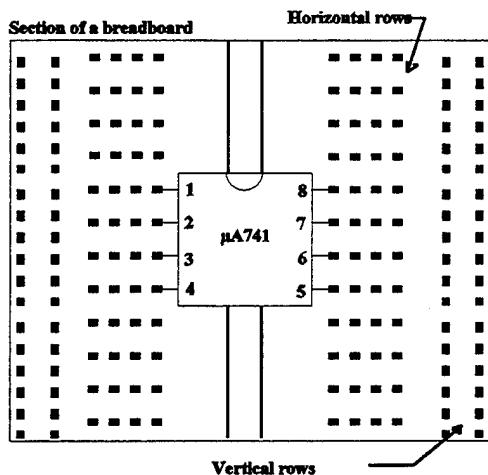
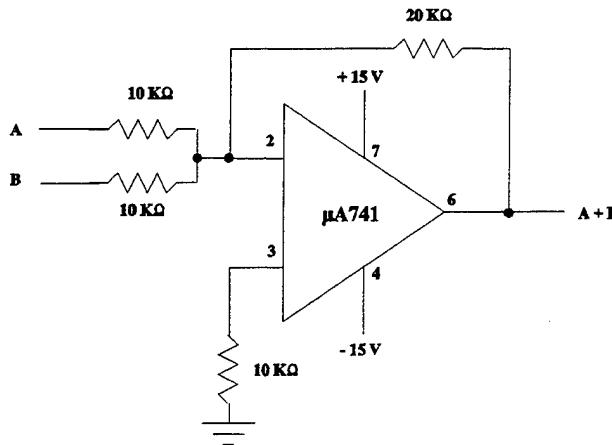

Figure 1
Figure 2
The TDM circuit is constructed using four integrated circuit chips adapted from Ref. [4]. See Figure 2 of Appendix D. A square wave and a triangle wave are produced using a XR8038 precision waveform generator. They are multiplexed with two external inputs, a DC signal and a square wave, using a CD4051B analog multiplexor. The output waveform is a combination of the four signals. Each signal is sampled once every clock pulse. The clock frequency of 7.5 kHz is provided by a CD4029B up/down counter.
The end of the chip with the semicircular mark is the top. The pins are numbered from the top left. See Figure 1.
b) Figure 2 is a representation of a summer circuit. This circuit adds the two input signals, denoted A and B, and multiplies them by a gain of two. The pins numbers on the op-amp correspond to the numbers marked in Figure 1. Connect the circuit of Figure 2, disregarding connections to A and B. They will be connected later. Use three horizontal busses. One bus will be for ground, one for + 15 volts and one for - 15 volts. Measure the power before it is connected to the circuit! The ± 15 volts and ground will come from the P5S03 power supply. To measure the power, connect the ground and the positive output of the power supply to the DMM. Adjust the power until it reads + 15 volts. Remove the positive lead from the power supply and connect it to the negative output of the P5S03. The DMM should now read negative volts. Adjust the power supply for -15 volts.